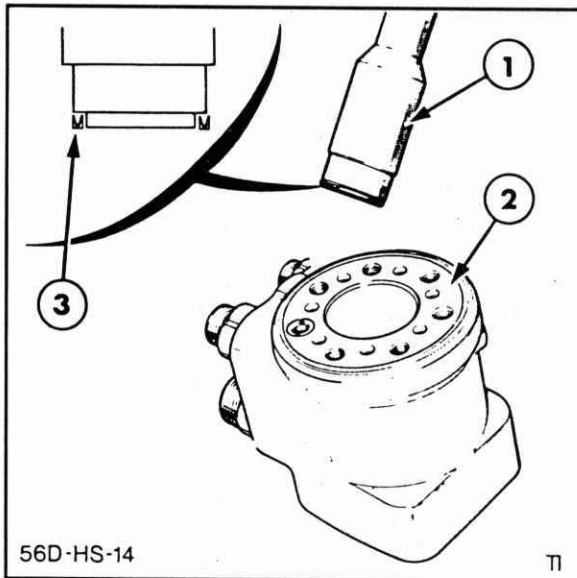

Figure 7-38
5. Lightly coat the O ring and back-up ring with hydraulic fluid and position them onto the seal installer guide, Figure 7-38.